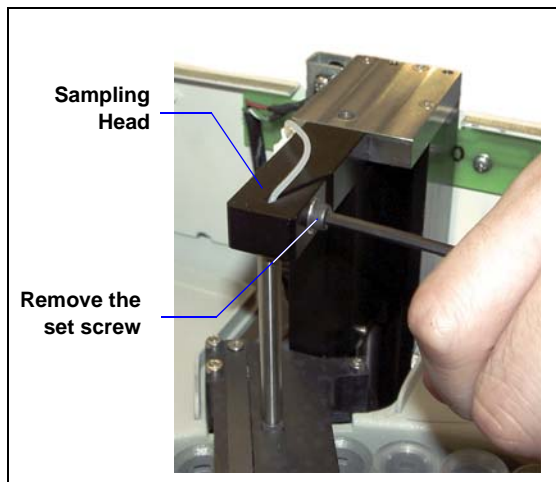

Figure 5-8. Removing the Set Screw
6. Use a 3-mm Allen wrench to remove the set screw on the sampling head (see Figure 5-8).